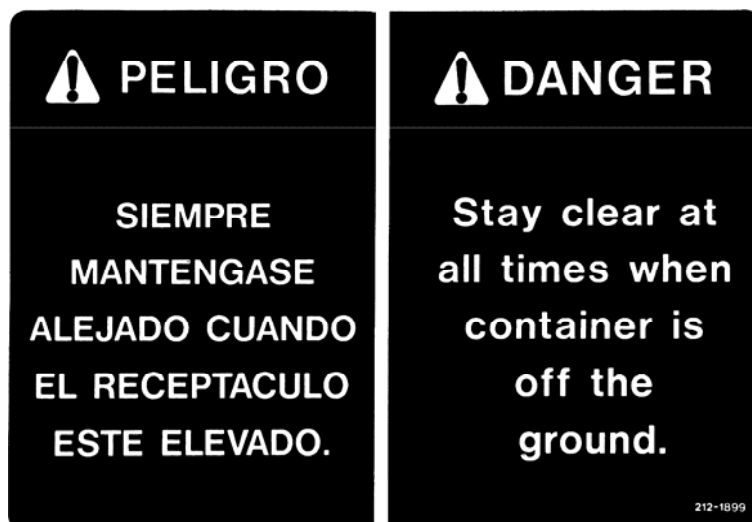

Figure 9. Container off Ground Danger Decal, PN 212-1899
- Figure 9 shows a DANGER decal about when a container is off the ground.